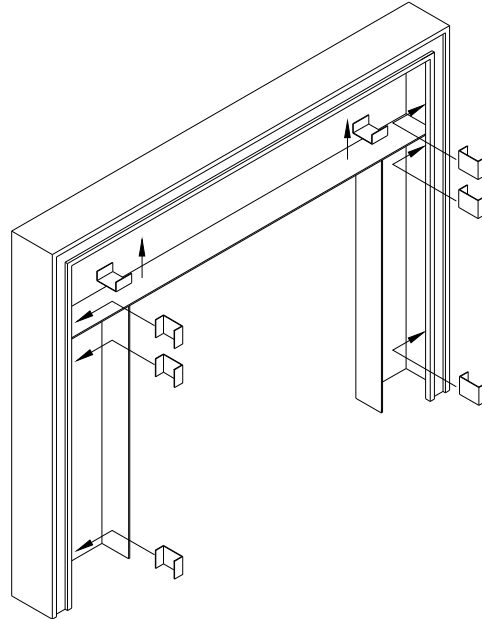

Figure 8
7. **INSTALLATION ON FACEPLATE:** Attach the mitred corners of trim together using the corner brackets. Slide the assembled trim over the edge of the faceplate. See Figures 8 and 9.
Attach the left and right sides to the top with corner brackets supplied. Slip the trim over the faceplate and snap the eight faceplate trim clips in place (see Figure 8).